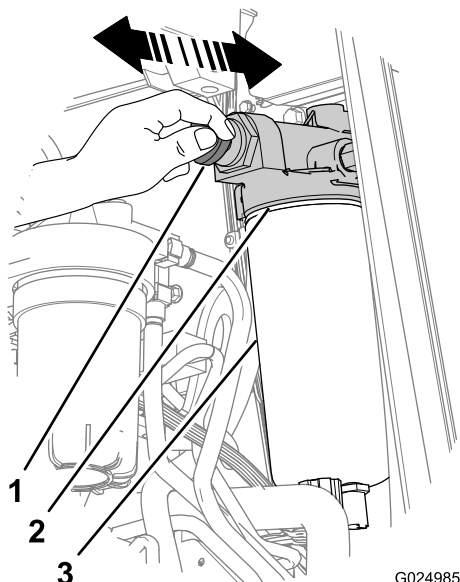

Figure 76
3. Clean the fuel-pump head and the priming pump using a quick-dry spray cleaner and compressed air (Figure 76).
4. Unlock the priming-pump handle by turning it **counterclockwise** (Figure 76).
5. Pump the primer handle (Figure 76) until you feel resistance and the handle cannot be pumped anymore (approximately 140 to 150 strokes for dry filters or 20 to 60 strokes for pre-filled filters).
6. Lock the manual priming pump handle by turning it clockwise until it is fully seated (Figure 76).